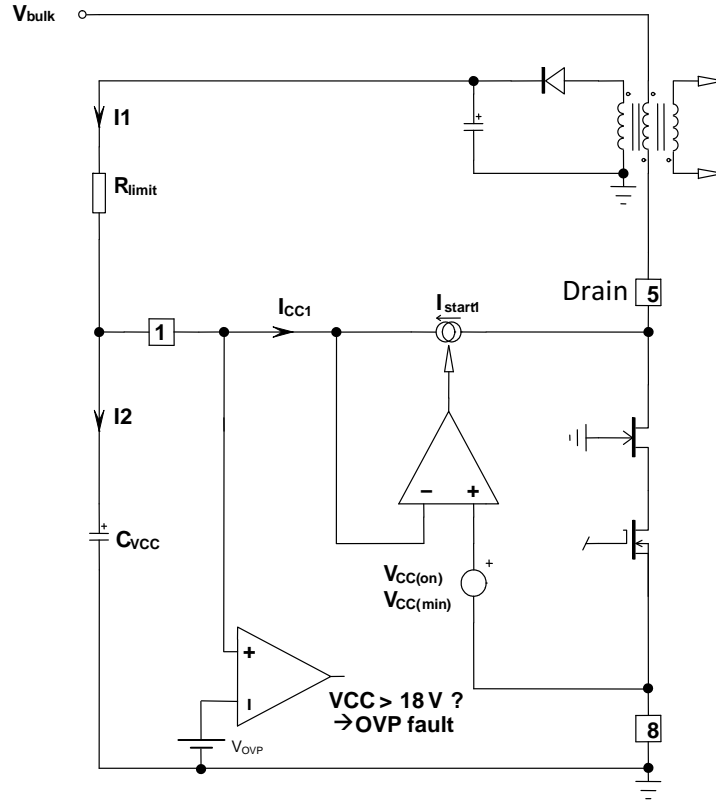

Figure 29. The Internal Arrangement of the Start-up Circuitry
pulses are delivered by the output stage: the circuit is awake and activates the power MOSFET if the bulk voltage is above VHV(EN) level (87 V typically) for A version and if bulk voltage is above Vstart(min) (21 V dc) for B version. Figure 29 details the simplified internal circuitry.
The  $V_{\text{CC}}$  capacitor has only a supply role and its value does not impact other parameters such as fault duration or the frequency sweep period for instance. As one can see on Figure 29, an internal OVP comparator, protects the switcher against lethal  $V_{\text{CC}}$  runaways. This situation can occur if the feedback loop optocoupler fails, for instance, and you would like to protect the converter against an over voltage event. In that case, the over voltage protection (OVP) circuit and immediately stops the output pulses for